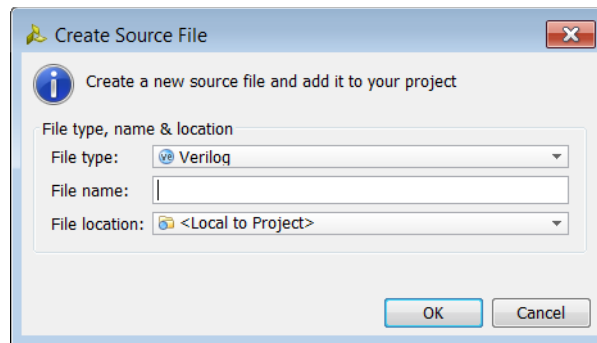

Figure 3-3: Create Source File Dialog Box
4. In the Create Source File dialog box (Figure 3-3), set the following options, and click **OK**: